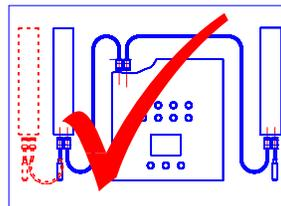

Figure 2
2.1.2 Both cables can be connected to the UIB and then to each Node, with a Terminator Plug in each node (Figure 2.) Additional Nodes can be added as indicated.